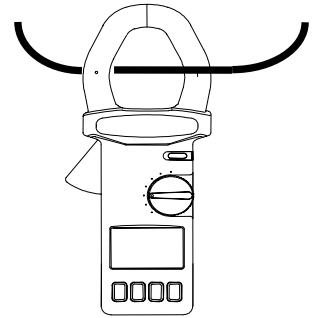

Figure 4
1. Set the rotary switch to the Amps position (A).
3. Press the trigger to open the jaw and fully enclose the conductor to be measured. The Jaws must be completely closed to make a measurement (see Fig.4).